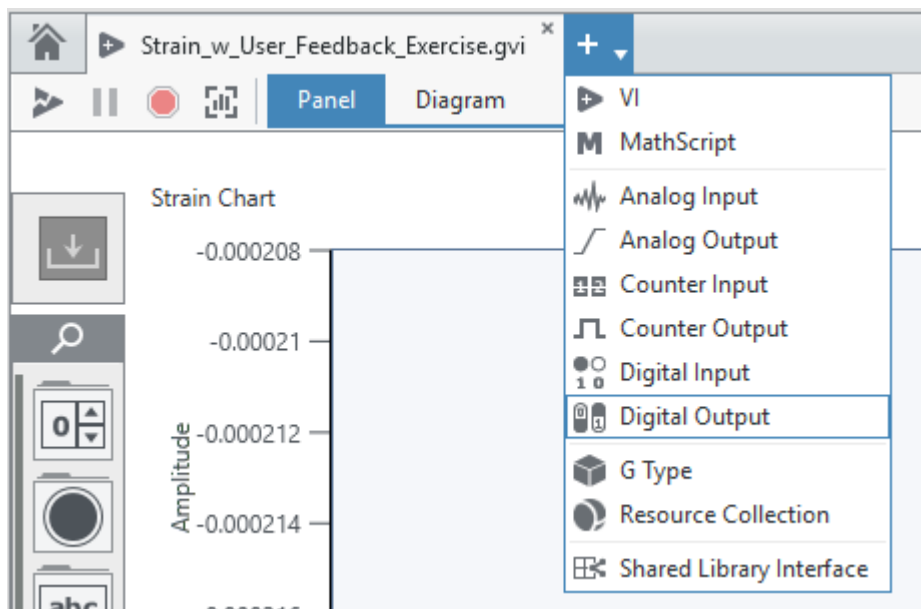

Figure 5-26 Starting with Measurement Panels ensures that your sensors are working and you will not have hardware problems.
- Click the **Add File** icon  in the tab toolbar at the top of the window, or navigate to **File » New**, and select **Digital Output**, as in Figure 5-26. This will create a new digital output Measurement Panel.